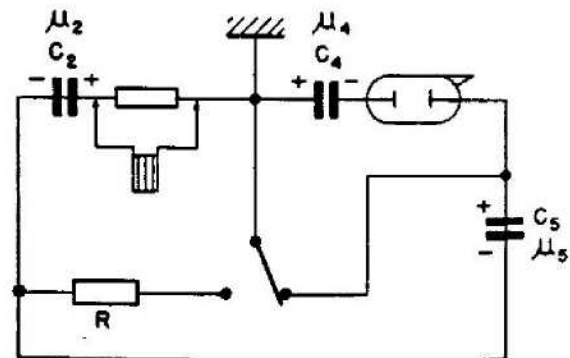

Figure 597B—Wiring Diagram
**DESCRIPTION:** The electrical time fuze has been worked on in Germany for about 15 years and has been in standard service in bombs with the armed services for some time. All electrical time and influence fuzes have fundamentally the same firing circuit, and this has been standardized. (See fig. 597B.) The triggering voltage may then come from either the output of the influence device or from the charging of a condenser network in the case of the electrical time fuze. Electrical firing is also used in some contact fuzes. This section will deal only with the electrical time fuze for projectiles.